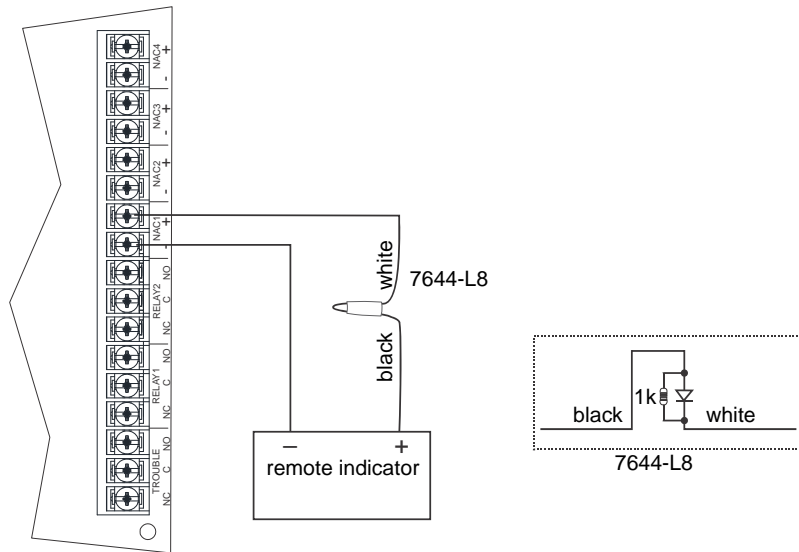

Figure 4.59 Polarity Reversal Connection Using the 7644-L8
1. Wire the 7644-L8 to the control panel as shown in Figure 4.59. Do not install an EOL resistor on the terminals of the circuit used.